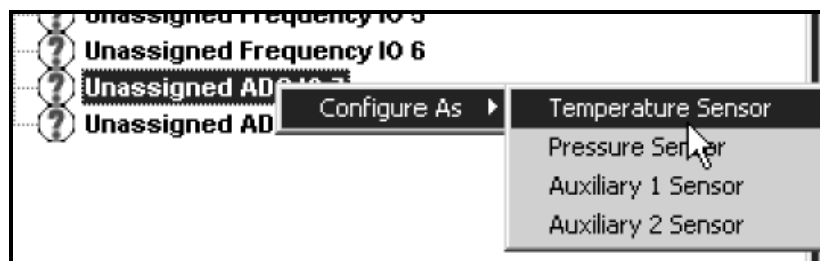
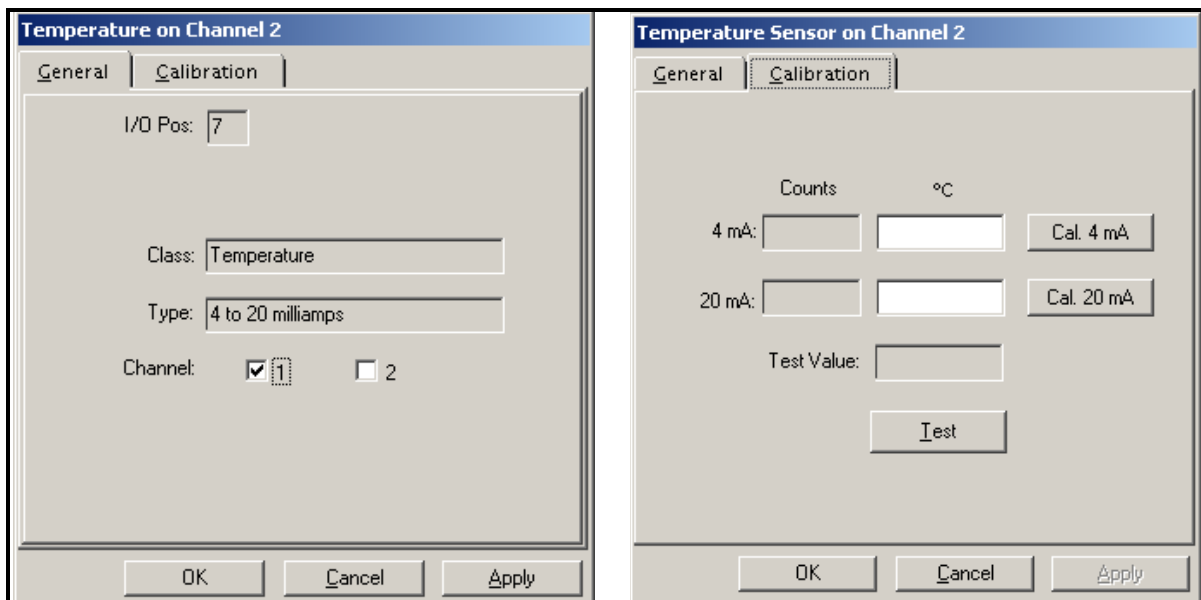

Figure 32: Accessing the Sensor Configuration
Figure 33: *PanaView*TM Temperature Assignments (two separate displays)
4. Under Unassigned I/O, right click on Unassigned ADC IO 7 and select the desired configuration option (see Figure 32 below). A display similar to that shown in Figure 33 below appears.